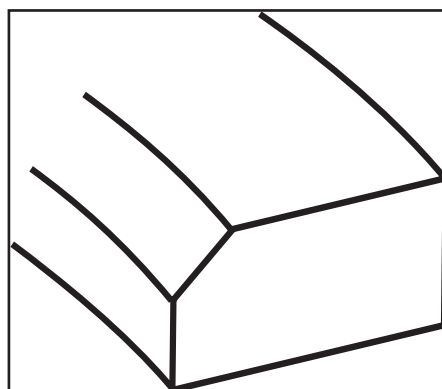

Figure 2
- f. Install top compression ring - Top compression ring has a gray finish that is relatively light in color, and may or may not have a slight bevel along the inner edge. It has no dot or other identifying mark. The light color can best be recognized by comparing compression rings to each other beneath a good light. Install light colored ring without dot in top groove, bevel up. If there is no bevel, ring can be installed either side up. **See figures 2 and 3.** Top compression ring gap should be 135° or approximately 1½" to left of oil expander gap.